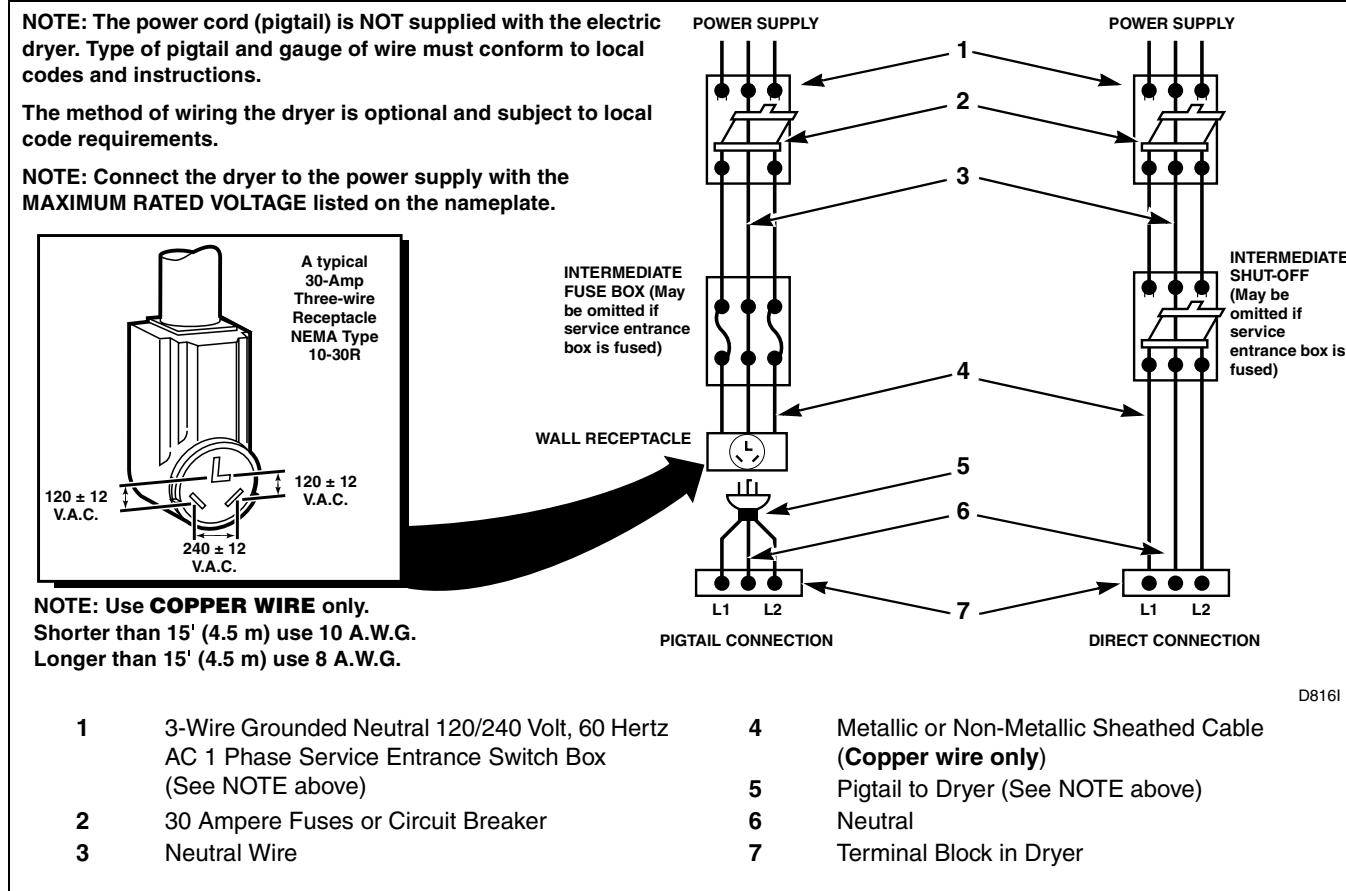

Figure 17
- The method of wiring the dryer is optional and subject to local code requirements. Refer to *Figure 17*.